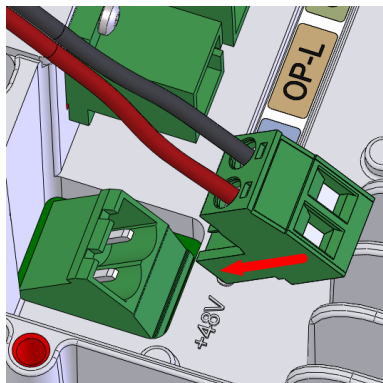

Figure 3-41
1. Insert power line plug into socket (Figure 3-41).